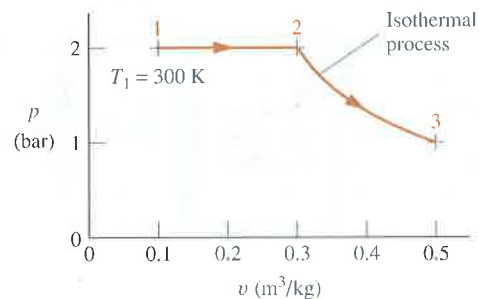

Fig. P3.139
3.139 Air contained in a piston–cylinder assembly undergoes two processes in series, as shown in Fig. P3.139. Assuming ideal gas behavior for the air, determine the work and heat transfer for the overall process, each in kJ/kg.